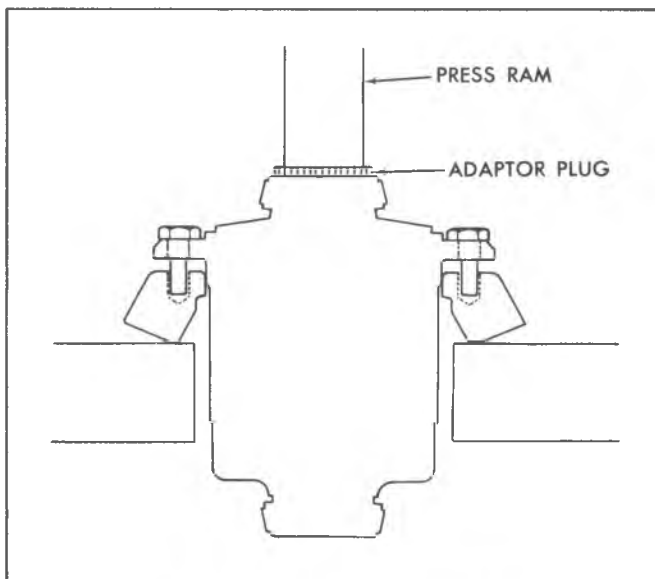

Fig. 5A—Ring Gear-to-Case Installation
3. Liberally coat the differential case pilot with hypoid lubricant. Pre-align ring gear and differential case bolt holes and press against adapter plug J-8107-2 to initially start ring gear on case pilot, as shown in figure 5A.